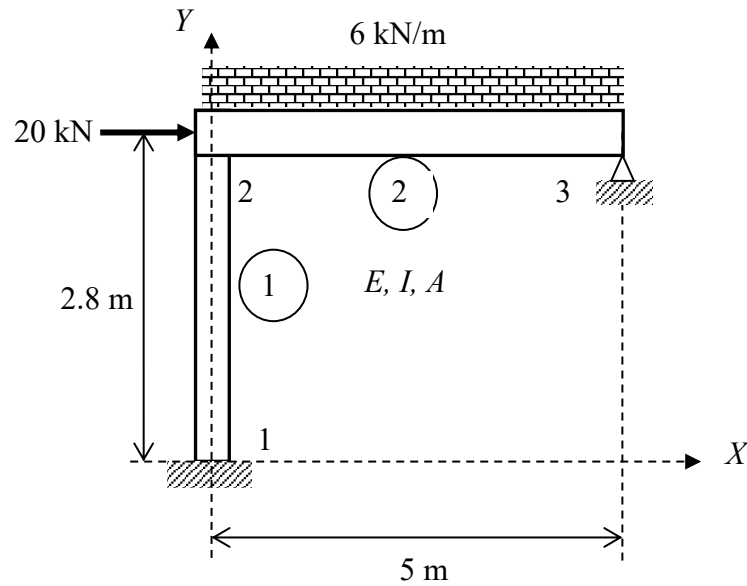

Figure 10
- (c). **Figure 10** shows a frame structure labeled as nodes 1, 2 and 3 which are subjected to a nodal force of $P = 20 \text{ kN}$ at node 2 and uniformly distributed load of 6 kN/m . The frame is fixed at node 1 and pinned at node 3. Given the value of $E = 207 \text{ GPa}$, $I = 3 \times 10^{-5} \text{ m}^4$ and $A = 0.005 \text{ m}^2$.